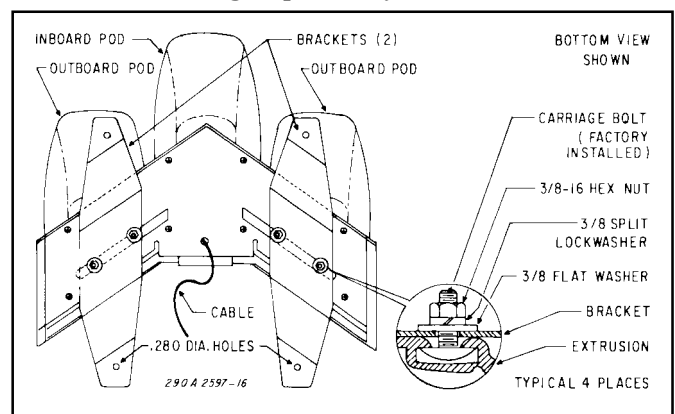

Figure 1.
2. Assemble the mounting brackets on the carriage bolts (factory installed) using nuts, flat washers, and lockwashers as shown in figure 1. Position the brackets adjacent to the inboard and outboard pods allowing access to the holes used to mount the light assembly on the vehicle roof. Secure the brackets in position.